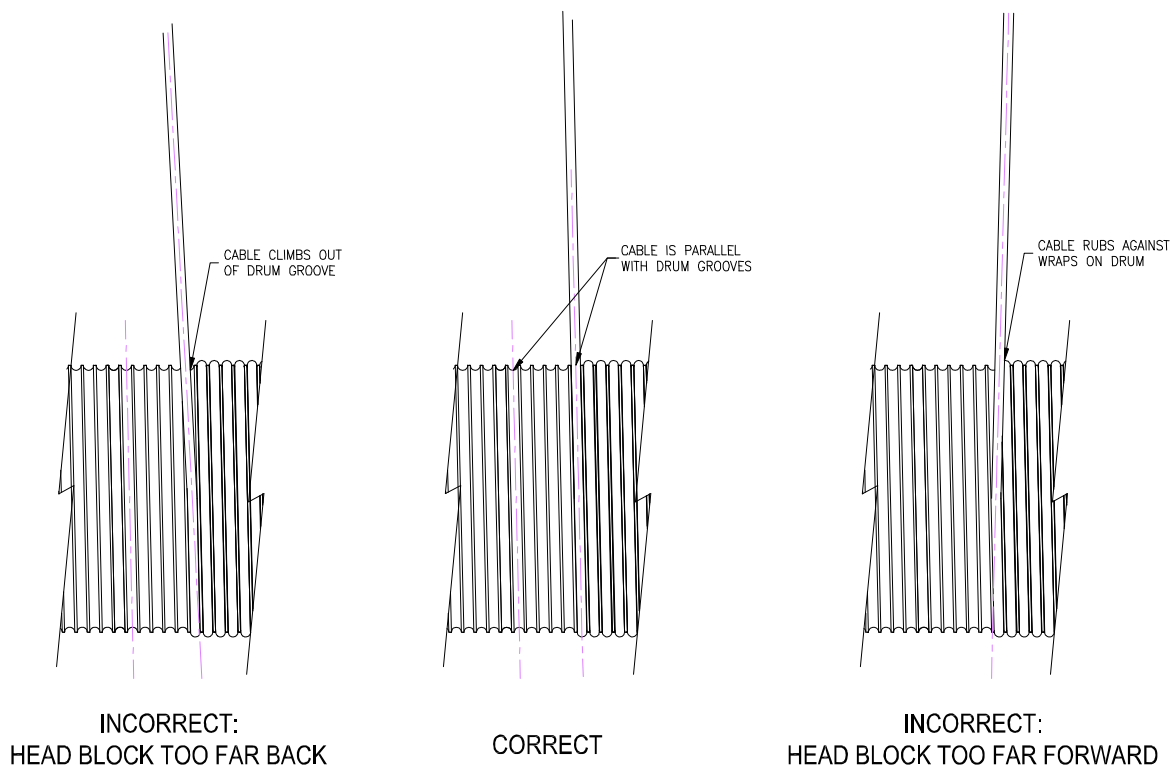

Figure 14: Inspecting the fleet angle at the drum
1. Observe the angle of the drum grooves and determine if the cable is parallel to the drum grooves. See Figure 14. If the fleet angle is correct, skip to Section 13. If adjustment is required, proceed to Step 2.
3. Adjust appropriate nut on axial head block constraint to correct the fleet angle according to Figure 14.